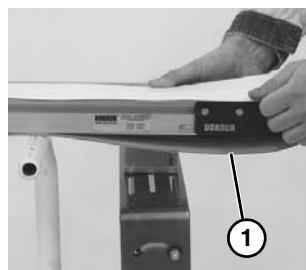

Figure 38
3. Install belt (**Figure 38, item 1**) on conveyor. Lift conveyor slightly to avoid pinching belt on temporary support stands.